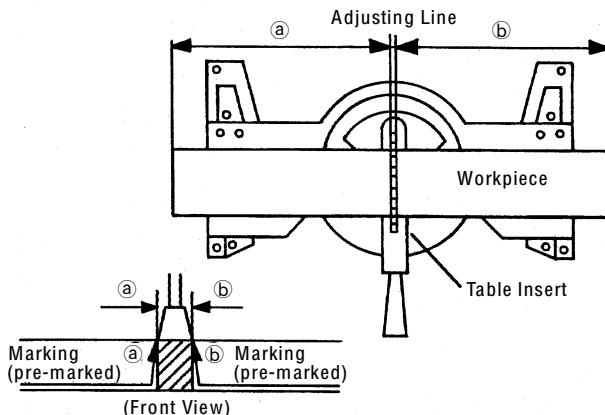

Fig. 21
- (1) As shown in Fig. 21 the width of the saw blade is the width of the cut. Therefore, slide the workpiece to the right (viewed from the operator's position) when length (b) is desired, or to the left when length (a) is desired.
- (2) Once the saw blade reaches maximum speed, push the handle down carefully until the saw blade approaches the workpiece.
- (3) Once the saw blade contacts the workpiece, push the handle down gradually to cut into the workpiece.
- (4) After cutting the workpiece to the desired depth, turn the power tool OFF and let the saw blade stop completely before raising the handle from the workpiece to return it to the full retract position.